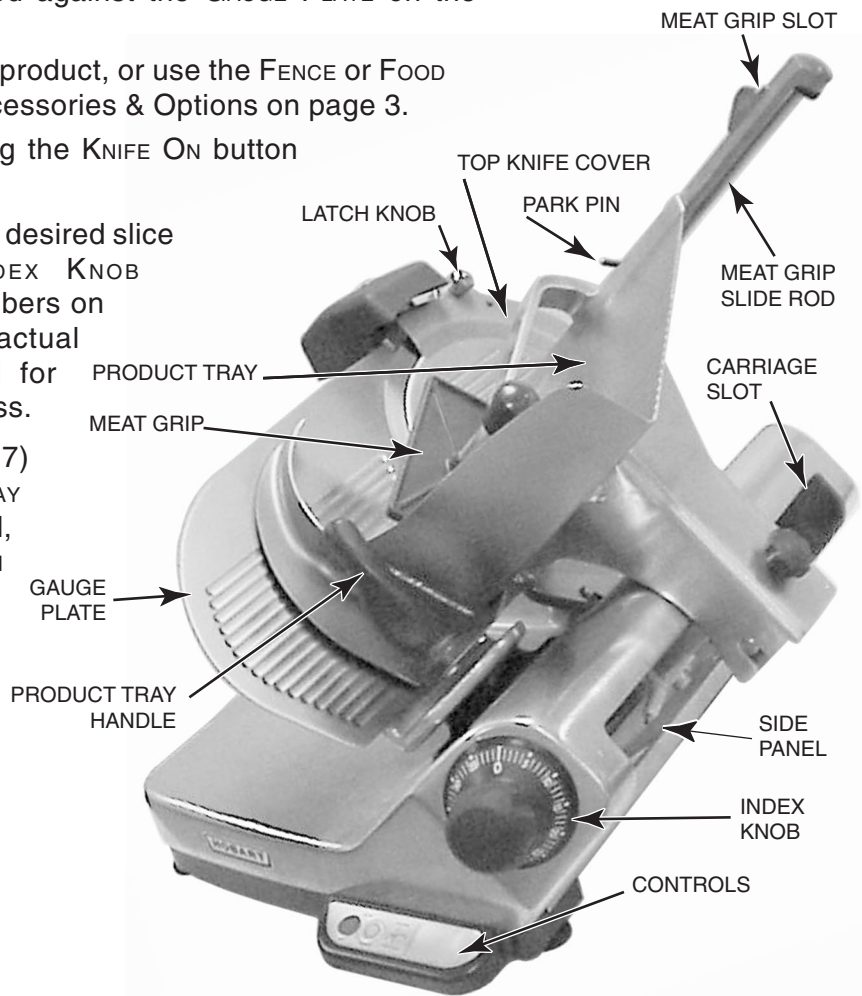
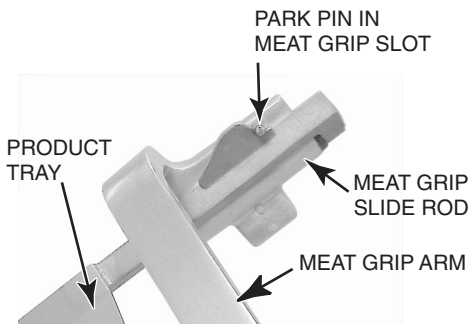

Fig. 7
Fig. 8
The TOP KNIFE COVER, and the plastic RING GUARD COVER underneath it, are shipped in place and secured with the LATCH KNOB on the TOP KNIFE COVER (Fig. 7).
To remove the TOP KNIFE COVER, turn the LATCH KNOB (Fig. 7) counterclockwise and lift the TOP KNIFE COVER off the three guide PINS (Figs. 5, 6). Remove the plastic RING GUARD COVER by lifting it from the guide PINS (Fig. 6).
Secure the RING GUARD COVER and TOP KNIFE COVER by turning the LATCH KNOB counterclockwise while lowering the TOP KNIFE COVER; then, release the LATCH KNOB and turn it clockwise until snug (Fig.7).
- Close the GAUGE PLATE by turning the INDEX KNOB fully clockwise (Fig. 7).
- Pull the PRODUCT TRAY (Fig. 7) all the way toward you until it reaches its stop (this is the home position).
- Raise the MEAT GRIP to the top of the PRODUCT TRAY, and rest the PARK PIN on the MEAT GRIP SLOT (Fig. 8).
Adjust the GAUGE PLATE to obtain the desired slice thickness by turning the INDEX KNOB counterclockwise (Fig. 7). The numbers on the INDEX KNOB do not indicate actual measurements but may be used for reference to duplicate slice thickness.
Use the PRODUCT TRAY HANDLE (Fig. 7) to push and pull the PRODUCT TRAY back and forth to slice. When finished, pull the PRODUCT TRAY toward you until it stops. Turn the INDEX KNOB fully clockwise to close the GAUGE PLATE. Press the OFF button to stop the slicer.
Raise the MEAT GRIP to the top of the MEAT GRIP SLIDE ROD, and rest the PARK PIN in the MEAT GRIP SLOT (Fig. 8).
Use the PRODUCT TRAY HANDLE (Fig. 7) to push the PRODUCT TRAY back and forth to slice manually. When finished, pull the PRODUCT TRAY toward you until it stops. Close the GAUGE PLATE by turning the INDEX KNOB fully clockwise. Press the OFF button to stop the slicer. Raise the MEAT GRIP to the top of the MEAT GRIP SLIDE ROD, and rest the PARK PIN in the MEAT GRIP SLOT (Fig. 8).
Remove the TOP KNIFE COVER by turning the LATCH KNOB (Fig. 7) counterclockwise and lifting the TOP KNIFE COVER free of the three guide PINS (Figs. 13, 14).
Carefully reassemble the plastic RING GUARD COVER by putting it in position using the three guide PINS (Fig. 14). Carefully reassemble the TOP KNIFE COVER (Fig. 13) by putting it in position over the plastic RING GUARD COVER using the three guide PINS. Secure both RING GUARD COVER and TOP KNIFE COVER by turning the LATCH KNOB (Fig. 7) counterclockwise while lowering the TOP KNIFE COVER; then release the LATCH KNOB and turn it clockwise until snug.
- Place the TOP KNIFE COVER on top of the RING GUARD COVER, aligning with the three guide PINS (Fig. 13). Secure the RING GUARD COVER and the TOP KNIFE COVER by turning the LATCH KNOB (Fig. 7) counterclockwise while lowering the TOP KNIFE COVER; then, release the LATCH KNOB and turn it clockwise until snug.